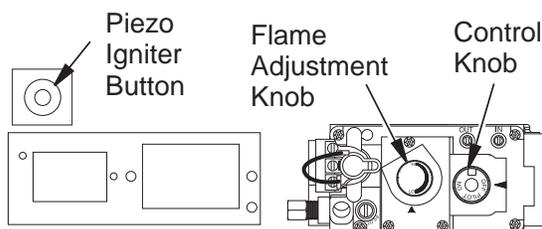
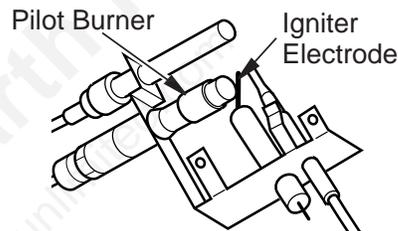

Figure 29 - Control Knob and Igniter Button Location (Shown as Supplied - No Control Options)
Figure 31 - Natural Gas Pilot
3. Press in and turn control knob clockwise  to the OFF position (see **Figure 31**).
4. Wait five (5) minutes to clear out any gas. Then smell for gas, including near the floor. If you smell gas, STOP! Follow "B" in the safety information, **Page 20**. If you don't smell gas, go to the next step.
5. Press in and turn control knob counterclockwise  to the PILOT position. Press in control knob for five (5) seconds (see **Figure 29**).